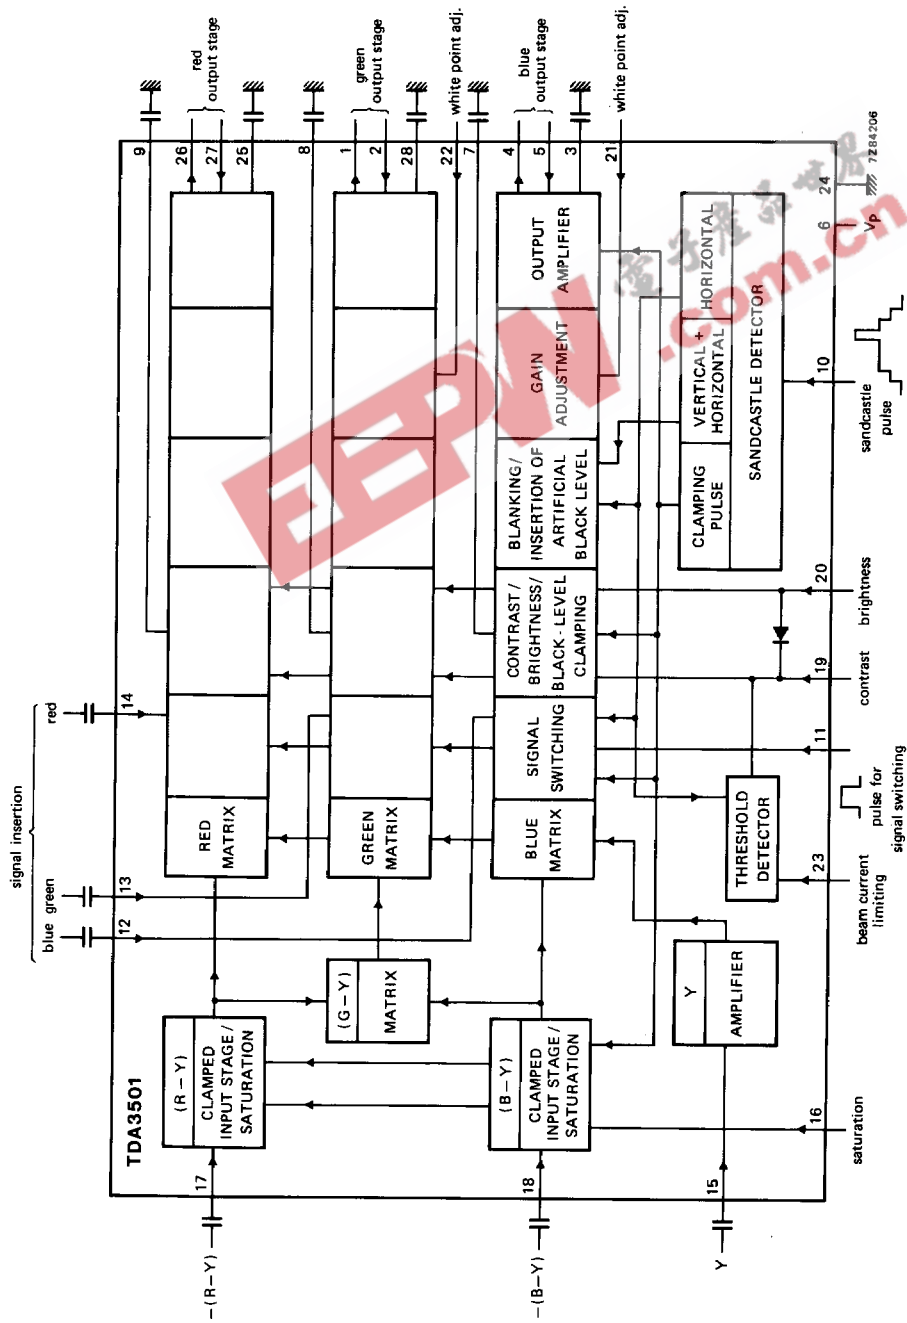

Fig. 1 Block diagram.
* During the clamping time (see sandcastle detector Fig. 1), the inserted RGB signals are clamped to the same black level as the internal RGB signals. For proper clamping, the internal resistance of the external signal sources should be < 200 Ω .